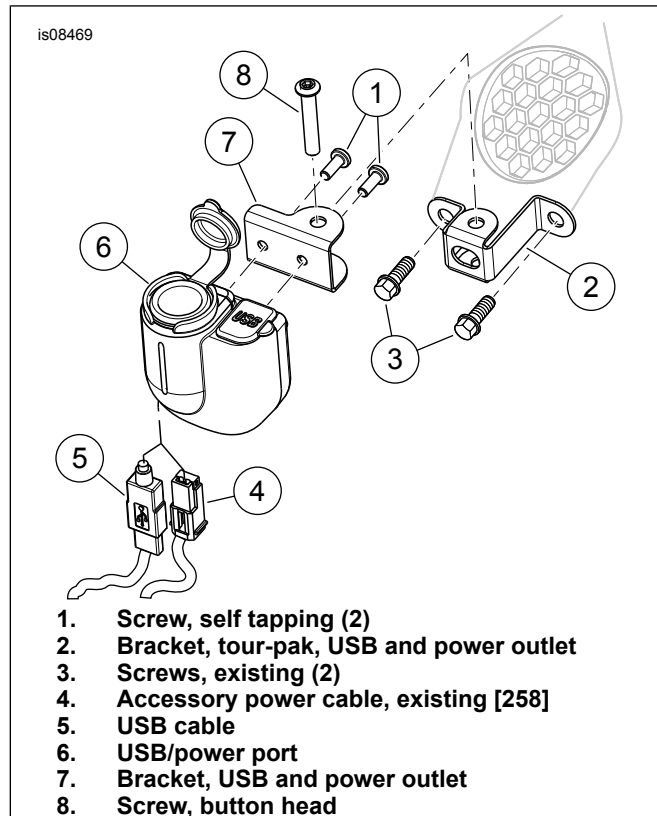

Figure 5. USB/12Volt Port, Tour-Pak
3. See Figure 5. Remove screws (3) and power port, if equipped.
4. Install bracket (7) to USB/power port (6) [299] securing with screws (1) as shown.
5. Install bracket (2) securing with screws (3). Tighten screws to 2.8–4 N·m (25–35 in-lbs).
6. Mate Accessory cable (4) and USB cable (5) to USB/power port.
11. Install USB/power port to bracket (2) securing with screw (8). Tighten screws to 2.2–2.8 N·m (20–25 **in-lbs**).